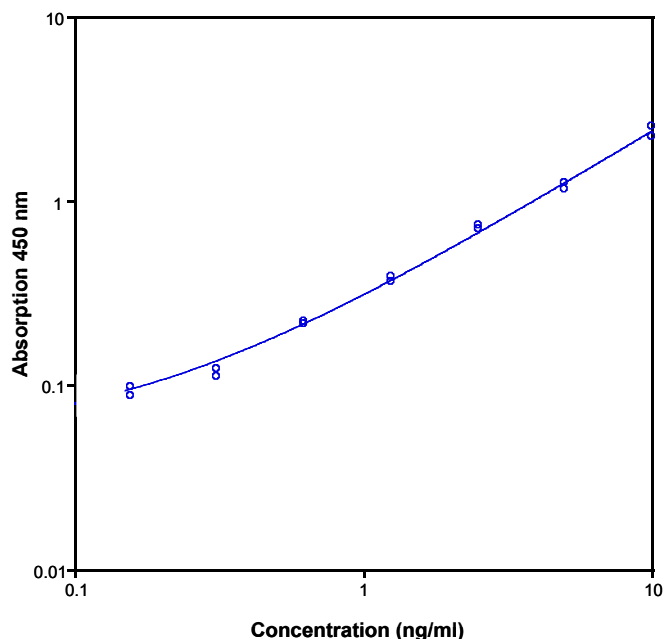

Fig. 8 Representative standard curve for Human TIE-2 ELISA Kit. Human TIE-2 was diluted in serial 2-fold steps in Sample Diluent.
- A representative standard curve is shown in Figure 8.